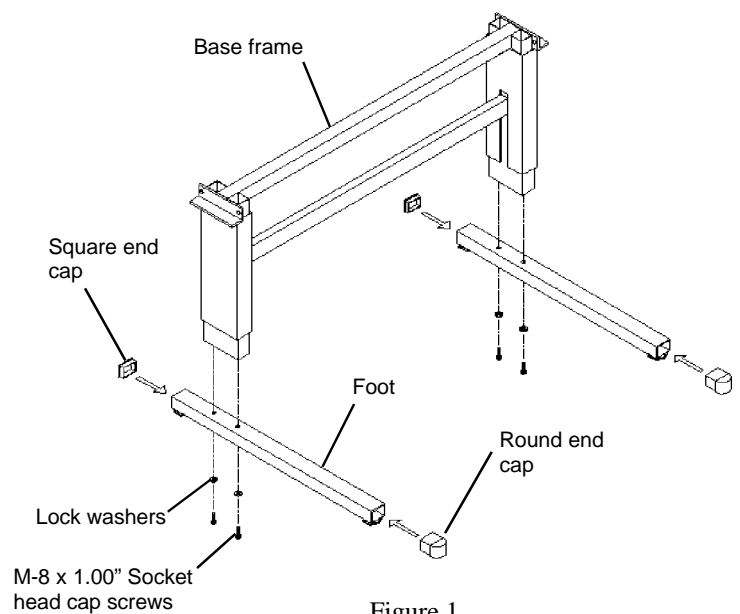

Figure 1
1. Attach the **Feet** to the adjustable **Base Frame** using the M-8 x 1.00" Socket head screws and Lock washers. Tighten securely using the 6mm Allen wrench. Install the round and square **End Caps** on the Feet. See **Figure 1**.